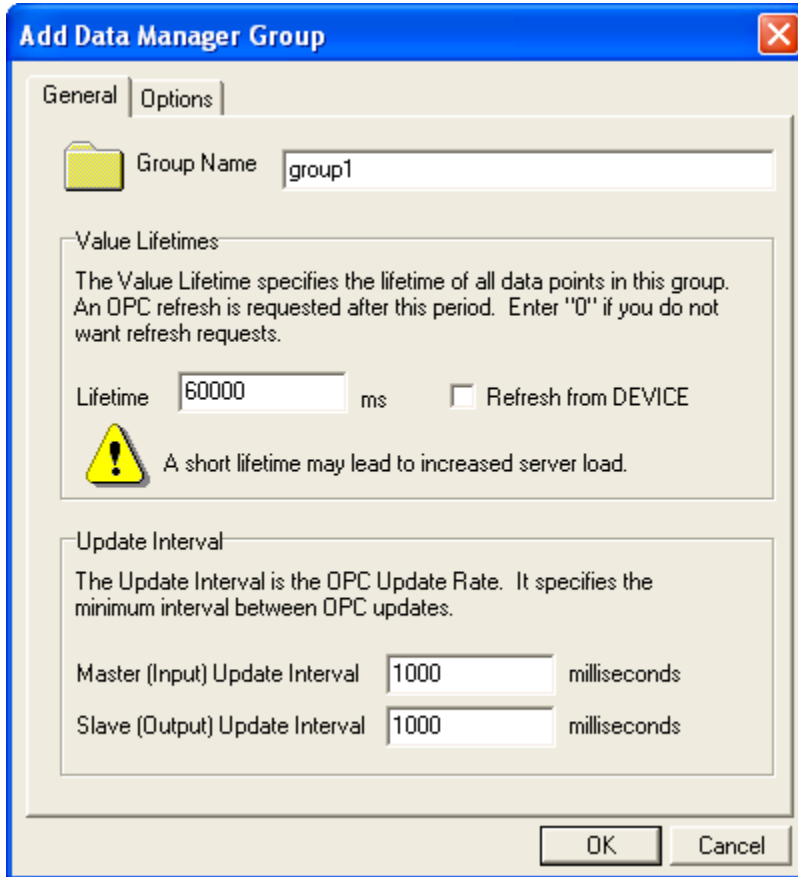

Figure 17 - Add Data Manager Group (General Tab) Window
The **Add Data Manager Group** (Figure 17) window is used to define groups. This window consists of two tabs:
2. The **Add Data Manager Group** (Figure 17) window appears.